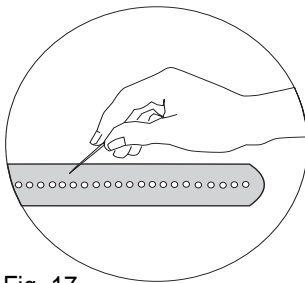
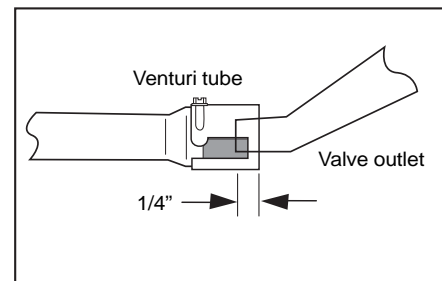

Fig. 17
Fig. 21
- Reinstall the burners properly over the valves (see Fig. 21). Use a wire brush or toothpick to clean the ports all around the sides of the burner (see Fig. 17). It is normal for some surface rust to appear on the burner. Severe rusting can enlarge the gas ports, however, which could cause changes in the Grill's performance.
Use a wire brush to clean all ports on the sides of the burner (see Fig. 17).
If burners are removed for cleaning or adjustment, always confirm that they have been reinstalled correctly over the valve outlets (see Fig. 21). The valves should extend into the burner venturis $\frac{1}{4}$ " minimum.